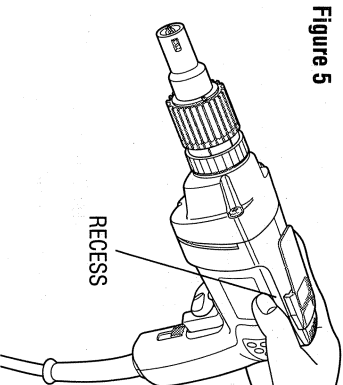

Figure 5
5. More pressure can be applied to the bit if the screwdriver is gripped by sliding the thumb and index finger along the side of the tool near the top. Actuate the trigger with middle finger and/or fourth finger. Black & Decker has designed recesses along the top sides of your screwdriver to allow for a comfortable grip. (See Fig. 5.)